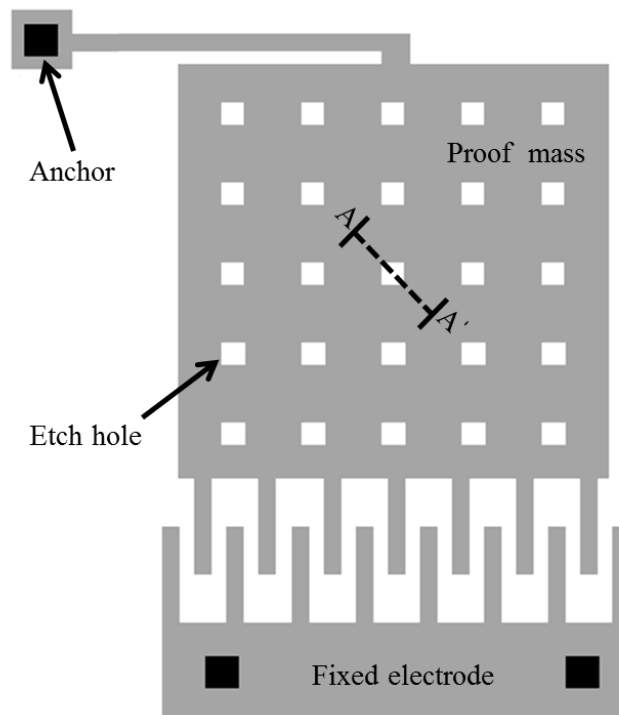
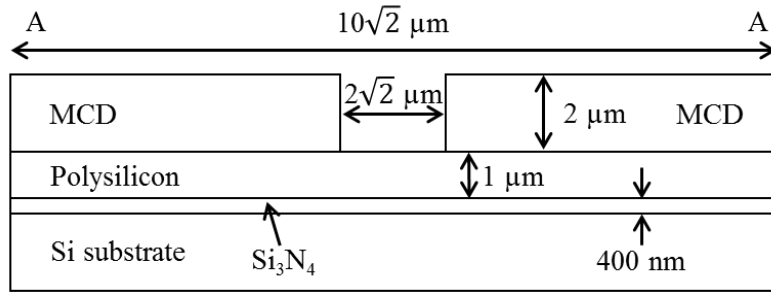

Fig. PS2.2
Fig. PS2.3
- 3) Figure PS2.2 presents the top view of an accelerometer constructed of $2\ \mu\text{m}$ thick micro-crystalline diamond (MCD) with a proof mass area of $50\ \mu\text{m} \times 50\ \mu\text{m}$. The proof mass has $2\ \mu\text{m} \times 2\ \mu\text{m}$ etch holes placed in a periodic pattern with a $10\ \mu\text{m}$ pitch. The structure is released using XeF_2 etching and the cross-section A-A' before the release etch is given in Figure PS2.3, which also shows the thickness of the polysilicon sacrificial layer ($1\ \mu\text{m}$) and the thickness of the protective Si_3N_4 layer ($400\ \text{nm}$) as well as the silicon substrate. Assume that XeF_2 does not attack MCD, but it does attack the Si_3N_4 with an etch rate of $10\ \text{nm}/\text{min}$, and that when it etches it is 100% isotropic. Also assume that the XeF_2 etch rate is $200\ \text{nm}/\text{min}$ for both polysilicon and single-crystal silicon.